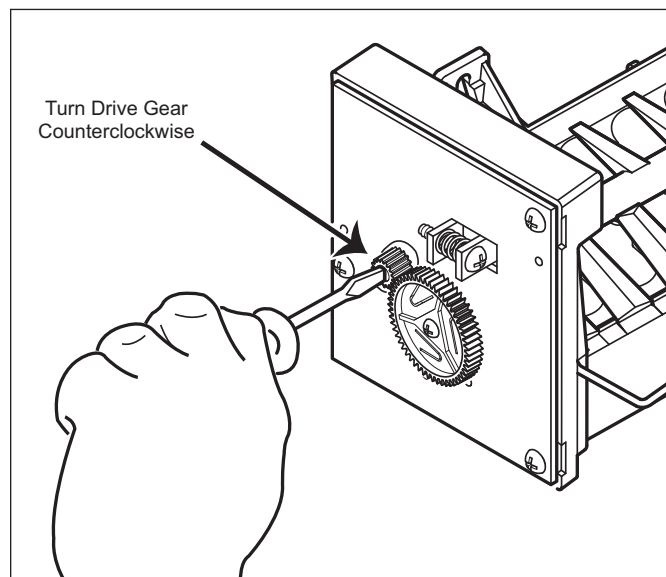

Figure 6-19. Manually Start Icemaker
2. With a flat-blade screwdriver, turn the drive gear counterclockwise until the holding switch is activated, completing the circuit to the drive motor (this will be about a 1/8 turn). (See Figure 6-19) The icemaker will then complete its cycle automatically.